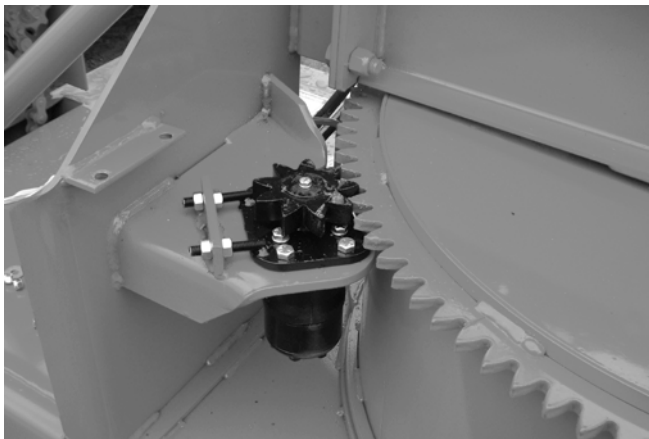

Figure 20
- 4) Bolt hydraulic motor on mounting plate provided, install 9 tooth gear (Fig. 20).